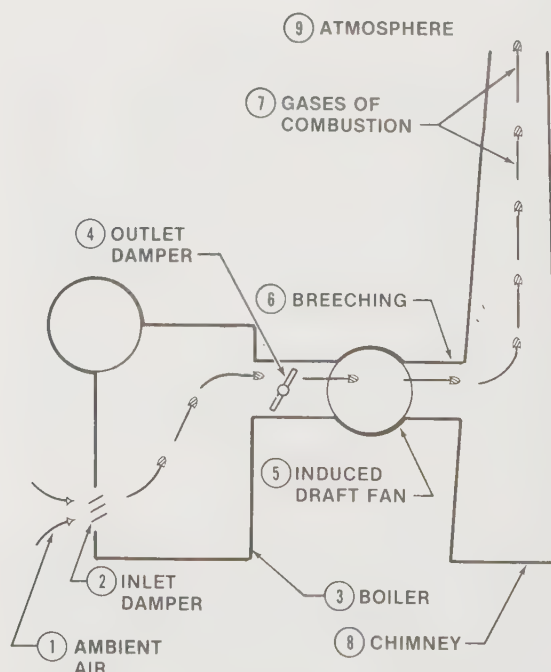

Figure 3-13. Induced draft produces a pressure below the atmospheric pressure to create air flow in the furnace.
Induced Draft. Induced draft systems produce pressure in the furnace slightly below atmospheric pressure. See Figure 3-13. In this system, the ambient air (1) is pulled through the inlet damper (2) into the boiler (3).